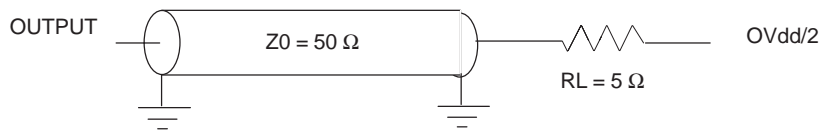

Figure 12 : AC Test Load
Figure 12 provides the AC test load for the PC755B.
- Per the 60x bus protocol,  $\overline{\text{ARTRY}}$  can be driven by multiple bus masters through the clock period immediately following  $\overline{\text{AACK}}$ . Bus contention is not an issue since any master asserting  $\overline{\text{ARTRY}}$  will be driving it low. Any master asserting it low in the first clock following  $\overline{\text{AACK}}$  will then go to high-Z for one clock before precharging it high during the second cycle after the assertion of  $\overline{\text{AACK}}$ . The nominal precharge width for  $\overline{\text{ARTRY}}$  is  $1.0 \cdot t_{\text{sysclk}}$ , i.e. it should be high-Z as shown in Figure 12 before the first opportunity for another master to assert  $\overline{\text{ARTRY}}$ . Output valid and output hold timing is tested for the signal asserted. Output valid time is tested for precharge. The high-Z and precharge behavior is guaranteed by design.